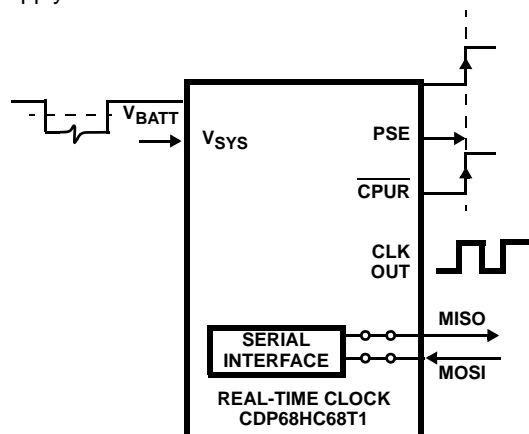

FIGURE 6. POWER-UP FUNCTIONAL DIAGRAM (INITIATED BY A RISE IN VOLTAGE ON THE “ V_{SYS} ” PIN)
Watchdog Function (See Figure 6)
- The second condition that releases Power-Down occurs when the level on the V_{SYS} pin rises about 1.0V above the level at the V_{BATT} input, after previously falling to the level of V_{BATT} (see Figure 6) in the Battery Backup Mode or V_{SYS} falls to logic low and returns high in the Single Supply Mode.